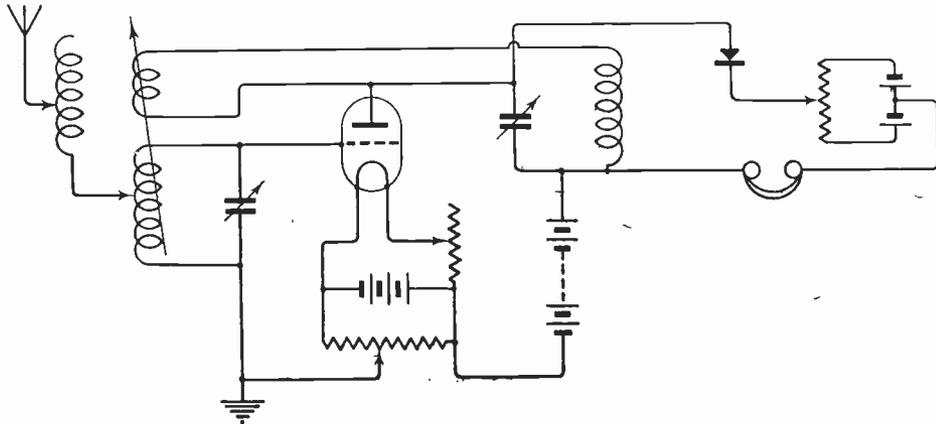

Fig. 5.
- (1) and (2) The whole set is of very indifferent type. It should be rearranged as in the diagram (Fig. 5). At least 45 volts should be used with an "R" valve.